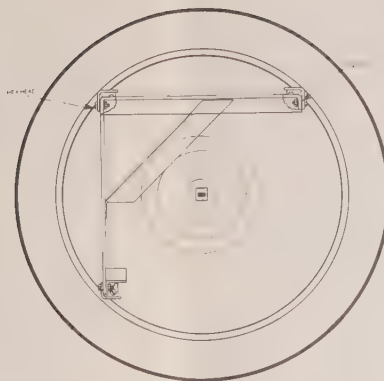

Figure 3-21. Mounting Bracket Installation - Vertical Polarization
Step 2. Mount the bracket assembly to the ears as shown in Figure 3-21 using the hex head bolts and nuts (3 places).